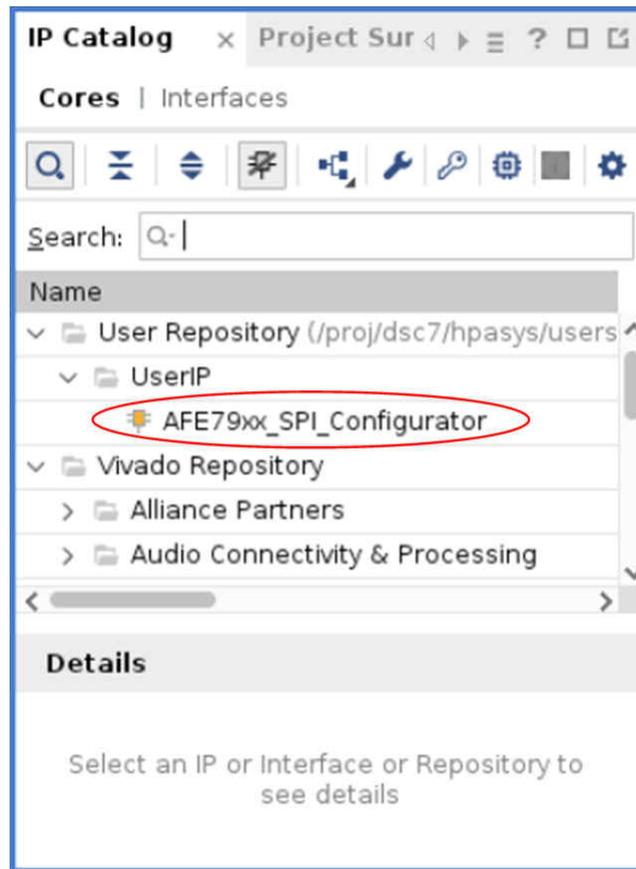

Figure 7-3. User Repository
3. Click the *IP Catalog* tab and notice the *User Repository* header (see Figure 7-3). The header appears only if the inclusion of the IP repository is done correctly, as explained in previous steps.